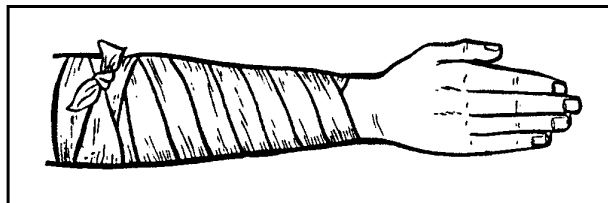

Figure 3-20
- b. Use a spiral wrap for a large cylindrical area such as a forearm, upper arm, calf, or thigh. The spiral wrap is used to cover an area larger than a circular wrap can cover. (See Figure 3-20.)